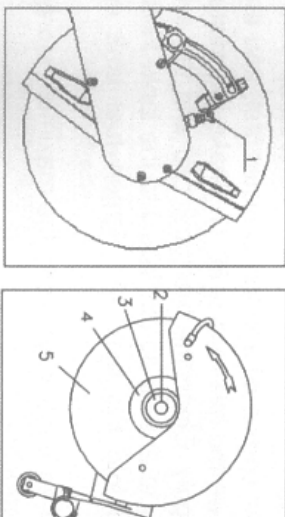

Fig 5
c. **Fitting/Replacing the blade:** (Ref. Fig.5)
- Gently press down on the Shaft Lock (1), use the combination wrench to turn the Blade (5) back and forth until the shaft lock engages in the blade shaft.
- Use the combination wrench to loosen and unscrew the Hexagon Bolt (2).
- Remove the metal Washer (3), the Flange (4) from the blade shaft together with the blade to be replaced.
- Fit the Flange(4) and Metal Washer(3).
- Screw in the Hexagon Bolt (2) and tighten it with the combination wrench with 25N.m torch.